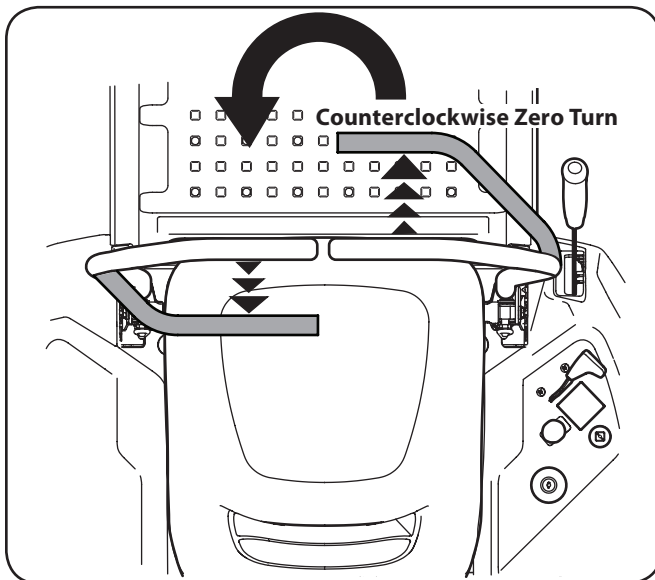

Figure 5-11
3. To turn counterclockwise, move the right control lever forward while simultaneously moving the left control lever rearward. See Figure 5-11.